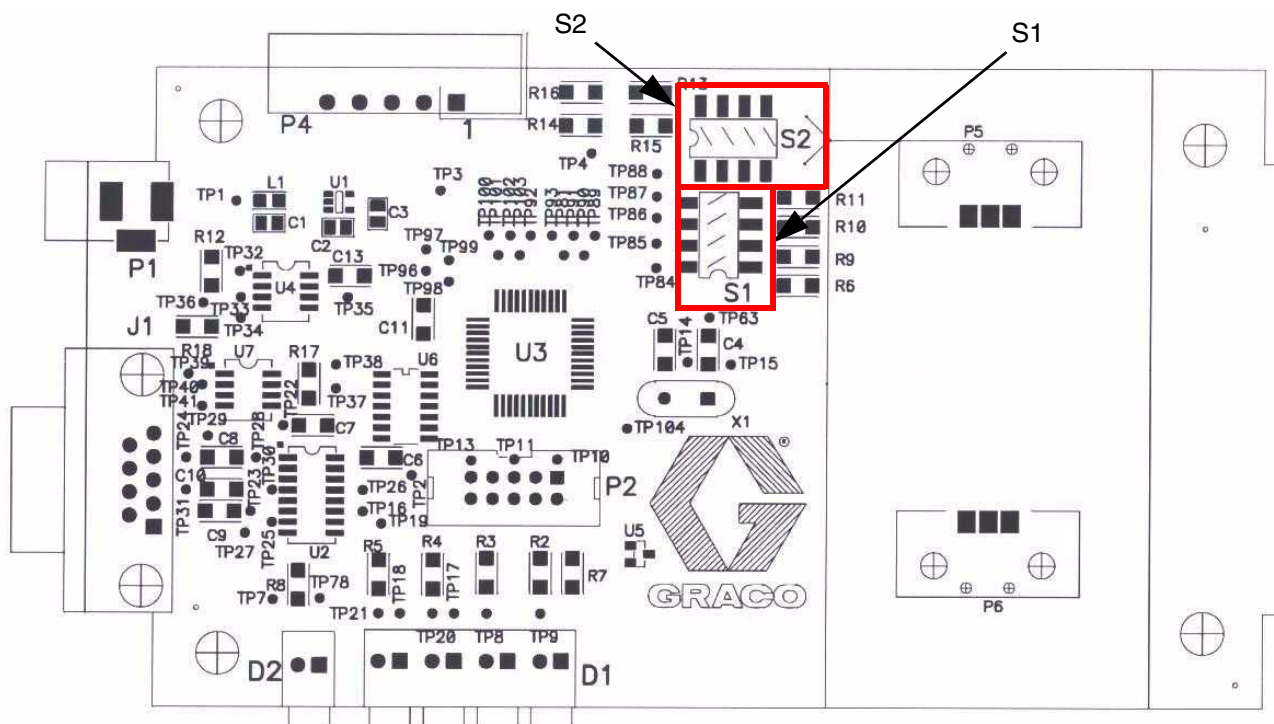

FIG. 9
4. Set the appropriate dipswitch (S1 or S2). See FIG. 9.